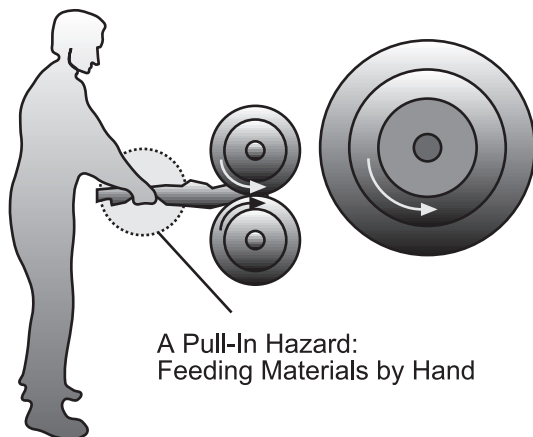

Figure 4. Machinery can pull you in faster than you can think to let go.
- **Pull-in point** hazards involve mechanisms designed to take in crops or other materials for processing. They include combine headers, windrow pickups, forage chopper headers, and grinders (Figure 4).